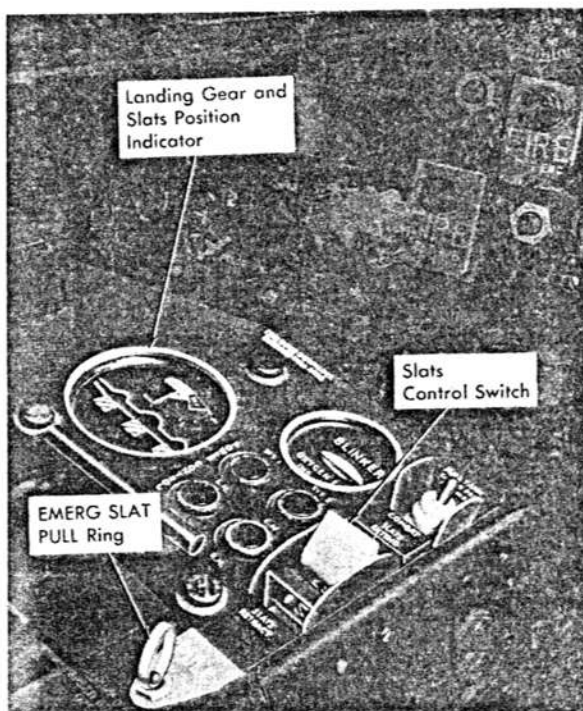

Figure 1-23. Slat System Indicator and Controls
**SLAT CONTROL SWITCH.** The slat-shaped control switch (figure 1-23) is located on the left-hand console. Moving the slat control switch to either "SLATS EXTEND" or "SLATS RETRACT" energizes the electrical solenoids of a hydraulic selector valve to direct hydraulic pressure from the utility hydraulic system to the extend or retract side of the four slat actuating cylinders. The cylinders are locked in the retract position by internal locks.
**EMERGENCY SLAT PULL RING.** The emergency slat pull ring (figure 1-23) is located on the left-hand console. When pulled, it mechanically operates an air pressure valve which delivers compressed air (3,000 psi) to the slat actuating cylinders to extend the slats. A spring-loaded latch beneath the console holds the control ring in the open position after it is pulled.
**LANDING GEAR AND SLAT POSITION INDICATOR.** This indicator (figure 1-23) is located on the left-hand console and is a modified landing gear and flap position indicator with the flap portion being used for the slat indication. The flap readings are related to slat readings as follows: